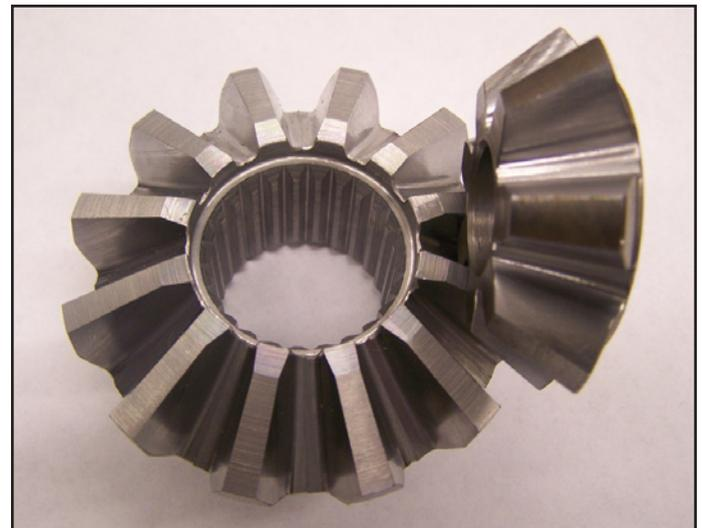

Figure 6 Practical example of a high-traction differential gear set.
**Practical results.** The photograph (Fig. 6) shows a 7×12-tooth high-traction differential development, which is the subject of the discussions in this section. The teeth are coarse with respect to the size of the gears with a large whole depth of the teeth. This is required in order to provide sufficient profile depth for the functionality of the high-traction involute modulation.